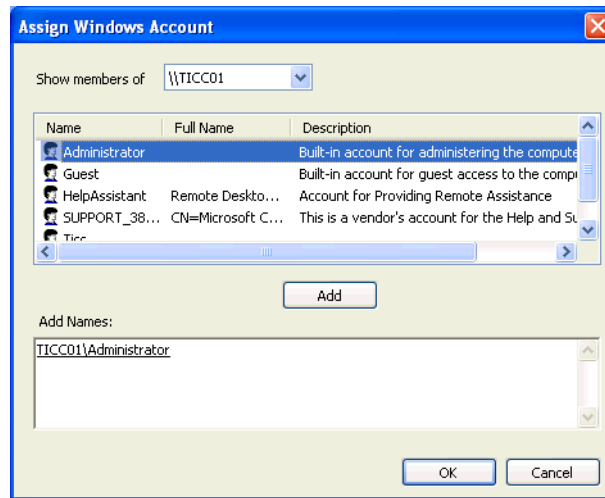

Figure 5. Assign Windows Account Dialog Box
2. The next dialog box (Figure 5) shows the Windows users of the domain that is selected in the drop-down menu. Select the Windows users you want to add to the IndustrialIT 800xA System users and click **Add**.